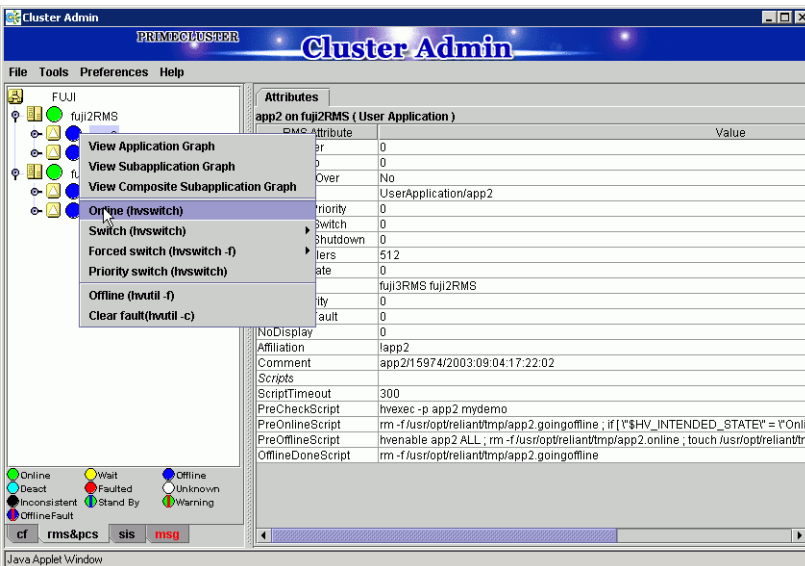

Figure 105: Starting an application
- ▶ Right-click on the application object and select the *Online* option from the pop-up menu (Figure 105).